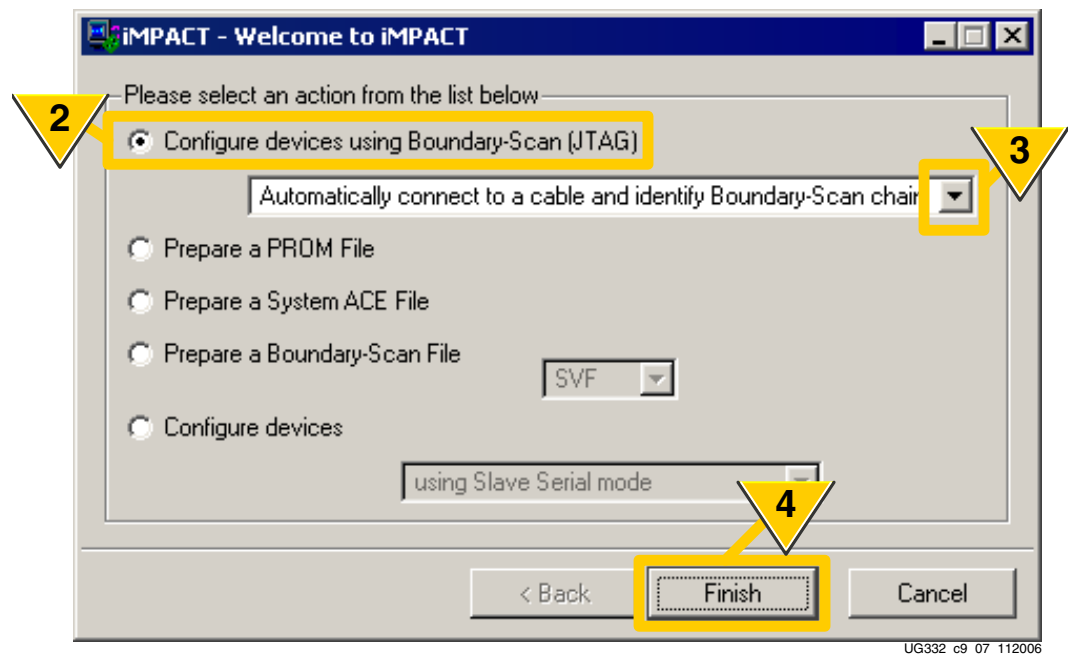

Figure 9-8: **Configure Devices Using JTAG**
2. As shown in Figure 9-8, select **Configure devices using Boundary-Scan (JTAG)**.